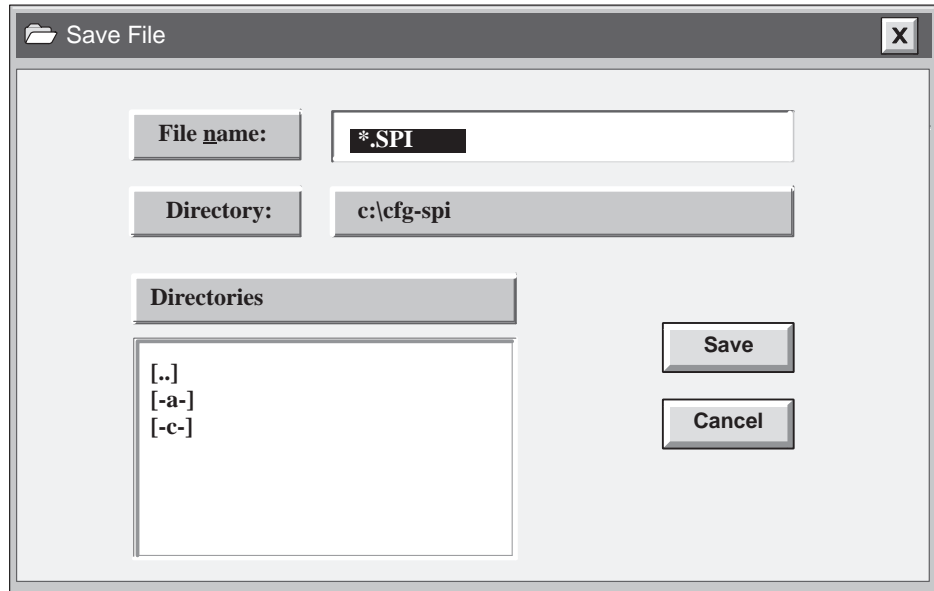

Figure 6-10 Save File Dialog Box
**Save** Use this command to save the configuration file with its current name and directory. When you save a document for the first time, the Configurator displays the Save File dialog box so you can name your configuration file. (See Figure 6-10.) If you want to change the name and directory of an existing configuration file before you save it, choose the Save As command.
**Save As** Use this command to save and name the current configuration. The Configurator displays the Save File dialog box so you can name your configuration. (See Figure 6-10.)
The Save File dialog box shown in Figure 6-10 contains the following fields, which enable you to specify the name and location of the file that you are about to save: